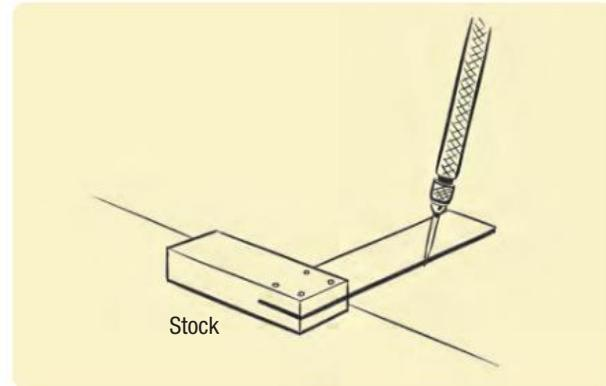

Figure 11.36 Using a try-square and a scribe to create a straight edge
- Place the stock (see Figure 11.36) of a try-square **firmly** against the datum edge and scribe a line close to the end of the sheet metal.